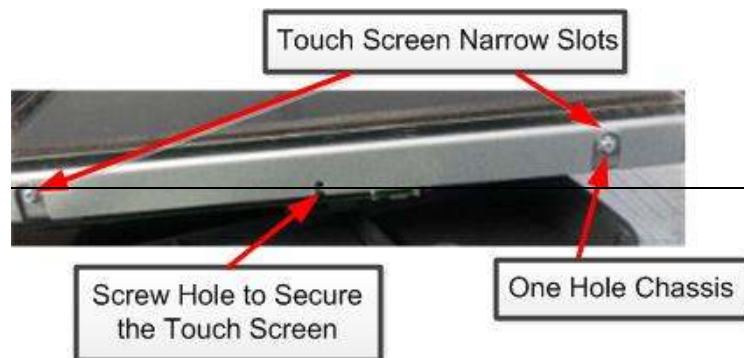

Figure 2 - Touch Screen Chassis
Inspect the edge of the chassis where the touch screen frame attaches to the chassis. See **Figure 2**. There will be access slots allowing access to the mounting holes and screws on this edge of the chassis. There are 2 chassis types:
- 3) Remove the screws identified at “Screw Hole to Secure Touchscreen” in Figure 2. Disconnect the touch screen from J17. Place the touch screen, screen up, in a secure location where it will not become damaged. Disconnect the LVDS cable from J18 and the grounding ring next to it. Discard this cable.